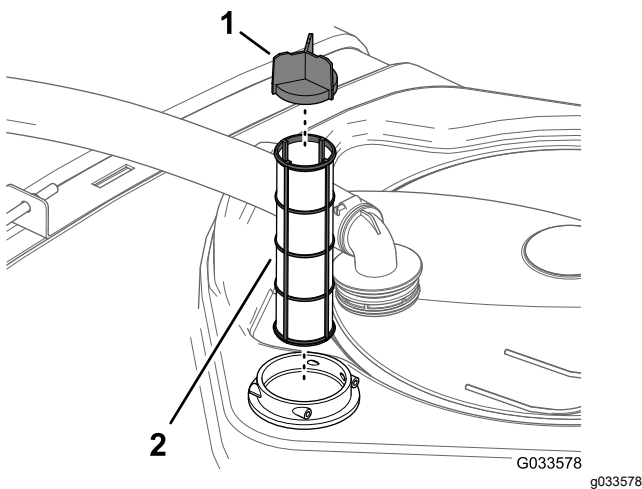

Figure 89
- Pull the suction strainer out of the filter housing in the tank (Figure 89).